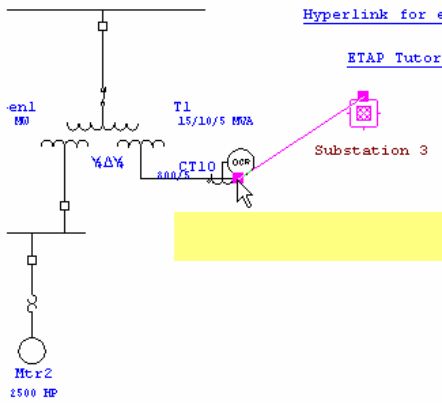

Fig. 12
13. Connect the “Top” external pin of the “Substation 3” composite network to the Tertiary terminal of the T1 three-winding transformer. See Fig. 12